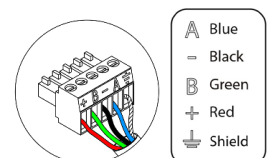

Fig. 15
It has a 5-pin terminal to connect it to the Airzone Connection Bus of the main board ③. Attach the wires with the terminal screws following the color code (Fig. 15).